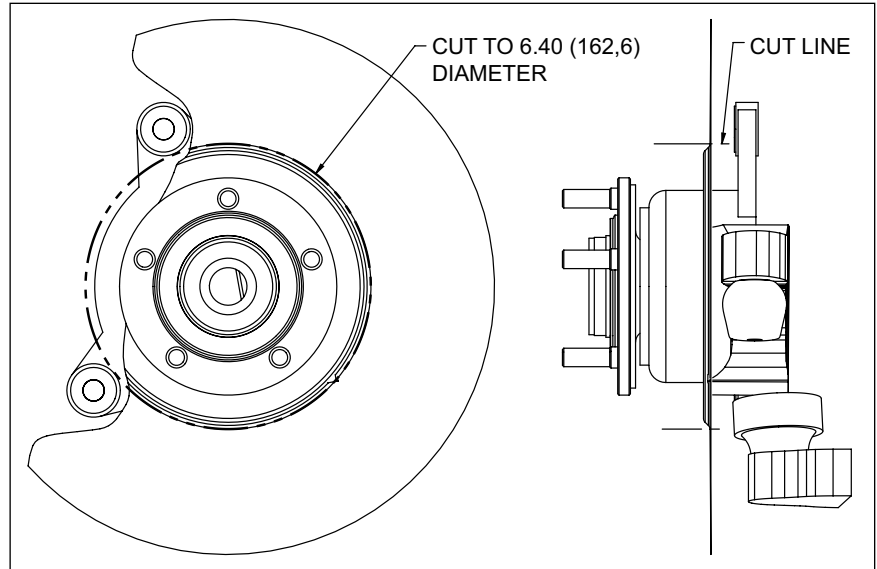

Figure 3. Dust Shield Modifications
•The dust shield needs to be modified as shown in Figure 3 to clear the new Wilwood rotor. **NOTE:** *It is recommended that the dust shield be removed before modification, and the modifications be performed by a qualified machine shop.*